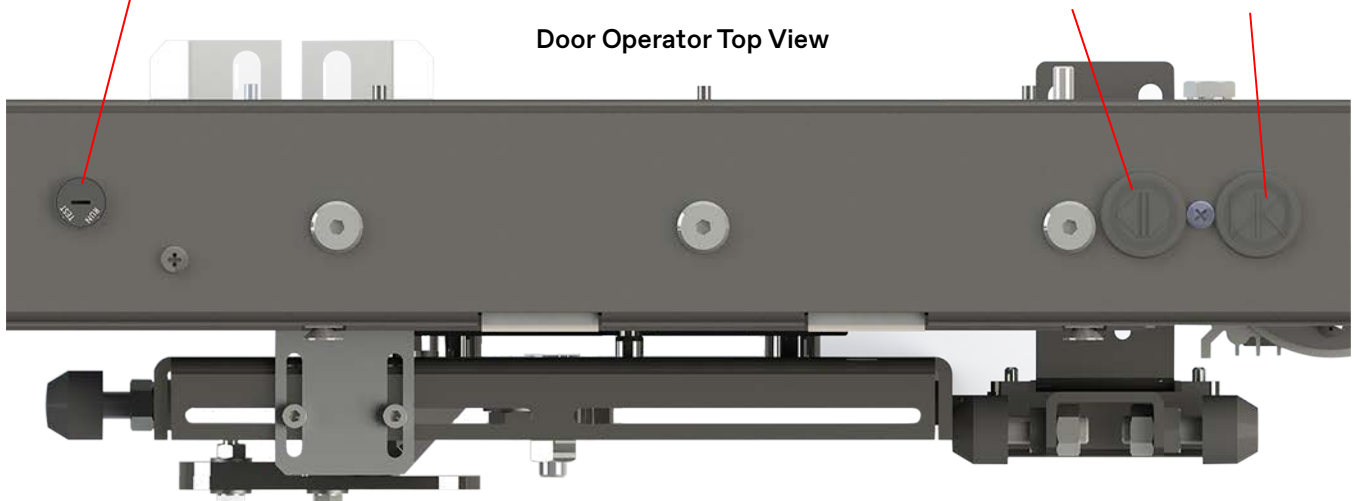

Figure 29 - LEDs and Test Buttons for Learn Door Travel
- Power up door operator, and verify the following LEDs. See Figure 29 on page 41.